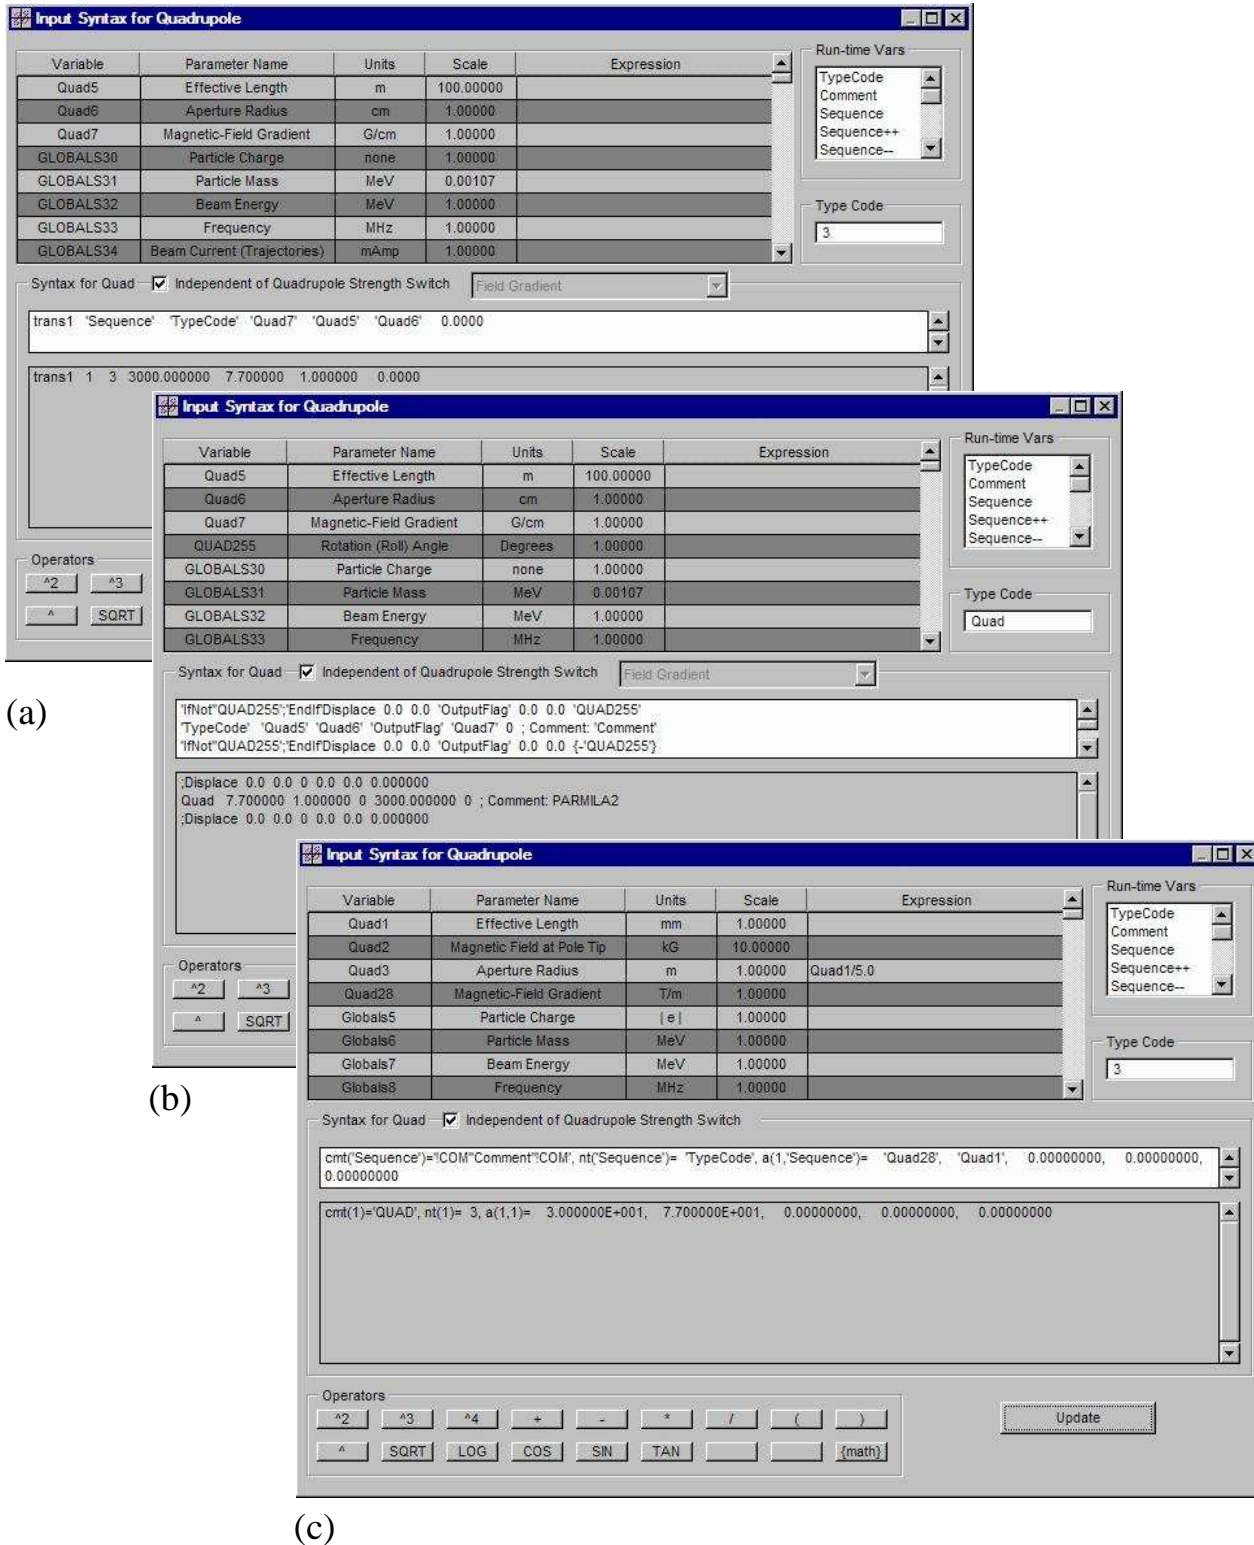

Figure 30. Input Syntax for Quadrupole windows for three (3) different computation engines: (a) PARMILA-1, (b) PARMILA-2 and (c) TRACE 3-D.
Figure 30 shows some Input Syntax for Quadrupole windows with syntax developed for three (3) different computation engines. From top to bottom these computation engines are: (a) PARMILA-1, (b) PARMILA-2 and (c) TRACE 3-D. PARMILA-1 corresponds to the version of PARMILA that was in common use prior to ~1998. PARMILA-2 corresponds to the version that has been in prominent use since that time. One difference between these PARMILA versions is how transport elements (e.g. quadrupoles) are described in their respective input files. The PARMILA-1 and TRACE 3-D Input Syntax for Quadrupole use the Run-time Vars 'Sequence'. The 'Sequence' runtime variable is discussed further below.
The PARMILA-2 Input Syntax for Quadrupole consists of the three lines. The first and third lines of the syntax utilize IfNot-EndIf structures, similar to those discussed in the preceding section for including (or excluding) the 2nd order quadrupole fringe integrals for the PSI-TRANSPORT computation engine. For PARMILA-2 the IfNot-EndIf structures are used to turn "off" and "on" the Rotation (Roll) Angle for the Quadrupole. The Rotation (Roll) Angle input is implemented by using a particular version of the PARMILA-2 "Displace" line. The IfNot-EndIf structures turn the corresponding Displace lines "on" or "off." In Figure 30(b) the Rotation (Roll) Angle is turned "off." It should be noted that the "off" cannot be accomplished by simply using Displace lines with an effective Rotation (Roll) Angle of zero (0.0). PARMILA-2 interprets such lines as a skew quad (45 degree Roll). Note also that the "ignore" character for PARMILA-2 is the semicolon (;) rather than the minus sign (-) used for PSI-TRANSPORT.
The PARMILA-1 and TRACE 3-D examples shown in Figure 30 use the runtime variable ‘Sequence’. The PARMILA-1 and TRACE 3-D computation engines are examples of codes that utilize a sequential index, or counter, that defines the order in which the transport elements are to be utilized. The OASIS Sequence runtime variable can be used for that counter. Sequence provides a counter that starts from 1 at the first “physical” Piece on the beamline and increments by 1 for each subsequent “physical” Piece. A physical Piece is any Piece that represents a physical beamline element, such as a drift or a quadrupole, or any Piece that presents a psuedo-physical element that can modify certain computed beam characteristics, such as coordinate rotation or matrix element Pieces. The majority of the PBO Lab Pieces are physical Pieces. Figure 31 summarizes the PBO Lab physical Pieces that will increment the Sequence runtime variable. Figure 31 also shows the “unphysical” PBO-Lab Pieces that do NOT increment the Sequence runtime variable.